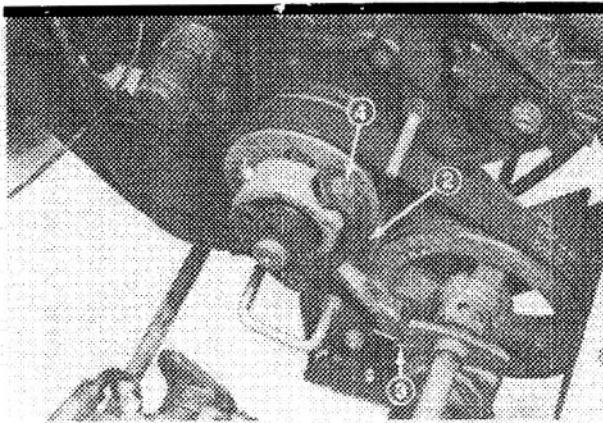

Figure 74
3. Remove capscrews securing belt guide bracket to mounting flange on engine plate (Fig. 74).
4. Remove cotter pin, clevis pin and capscrews securing PTO fork (Fig. 74).
8. Install PTO fork with bushings, capscrews, clevis pin and cotter pin (Fig. 74).
9. Install belt guide bracket with capscrews (Fig. 74).
1. Remove capscrews securing belt guide bracket (Fig. 74).